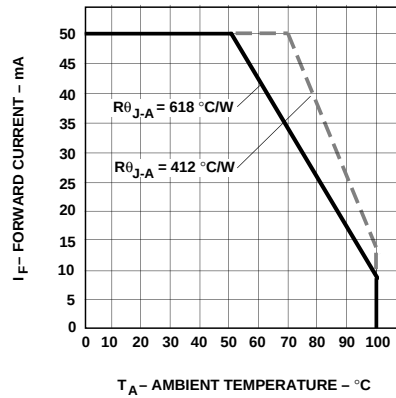

Figure 4. Maximum Forward Current vs. Ambient Temperature. Derating Based on T_J Max = 110°C.
1. Derate linearly as shown in Figure 4.